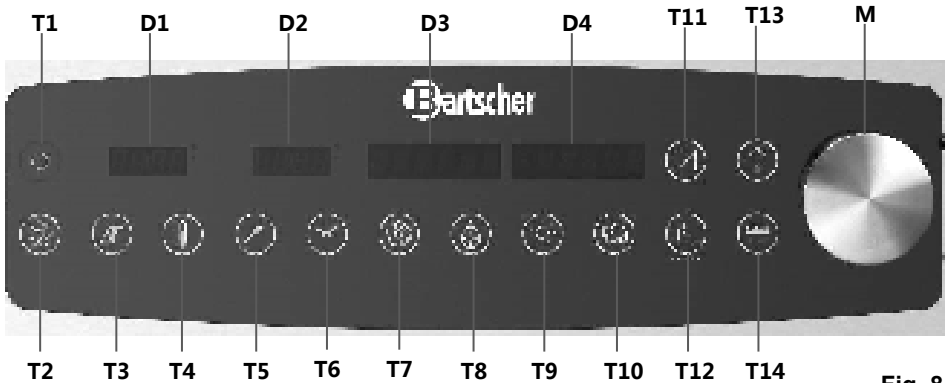

Fig. 8
- Start the device with use of main switch **T1** (fig. 8, page 62).
- Press key **T14** (fig. 8) „Start/Stop“.
- The device chamber illumination is turned on after pressing key **T13** (fig. 8). It is turned off automatically after 45 seconds or after pressing key **T13** again.